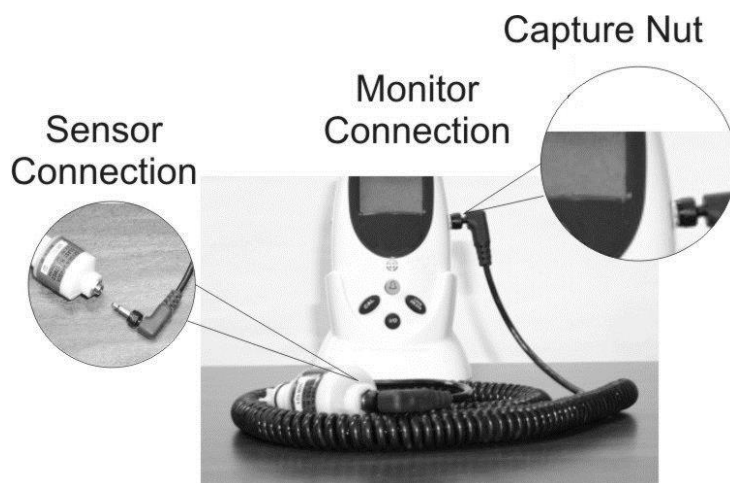

Figure 2-2: Sensor Cable Connection to Analyzer
3. Plug the other end of the cable into the receptacle located on the side of the unit and secure it using the capture nut. See Figure 2-2.